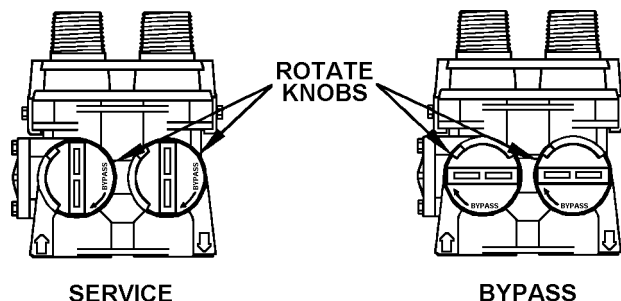

Figure 4. BYPASS VALVE
- Step 12. Partially open INLET valve in plumbing or on BYPASS VALVE (Figure 4). This will allow the unit to fill slowly from the bottom up, eliminating air entrapment. Allow unit to fill slowly, failure to do so could result in loss of resin to the drain. Once a steady stream of water, no air, is flowing to drain, the INLET VALVE can be fully opened. The OUTLET valve can also be opened and the BYPASS (if applicable) can be closed. Manually advance control to SERVICE POSITION. Plug into a non-switched 110/120V, 60Hz power source.